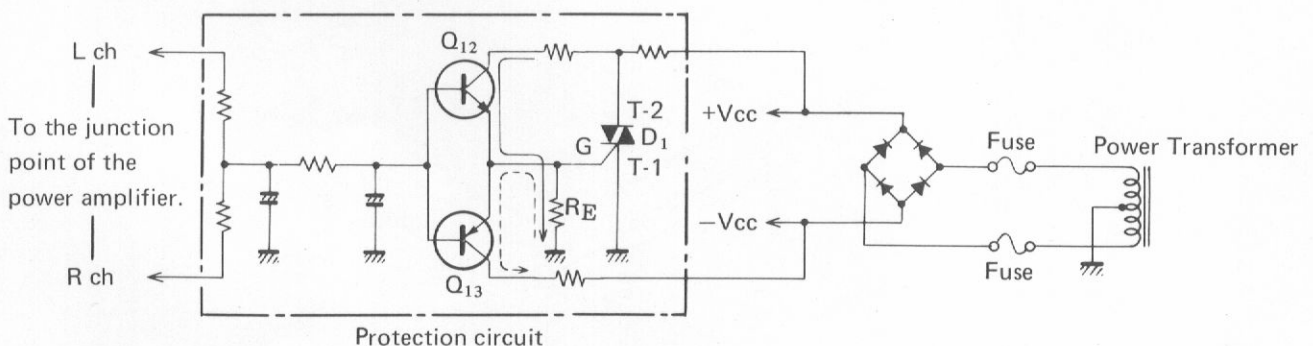

Fig. 2 Protection circuit
6.5 PROTECTION CIRCUIT (Fig. 2)
The bases of Q_{12} and Q_{13} are connected to the junction point of the power amplifier. The emitters of Q_{12} and Q_{13} are connected to the gate of D_1 and the emitter resistor R_E is common to both (Fig. 2).